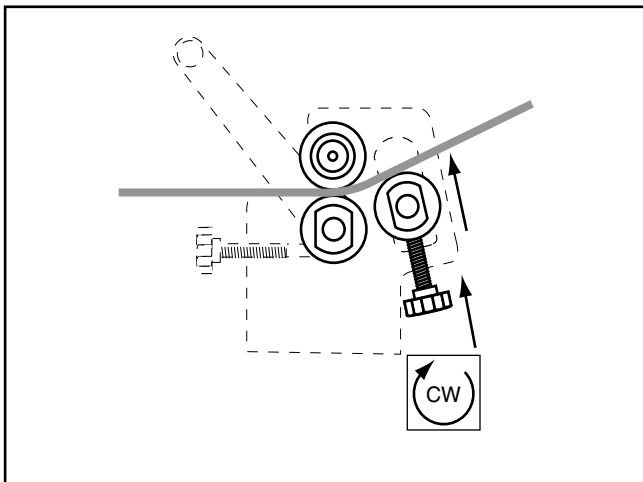

Figure 20. Setting the radius.
3. Turn the radius adjustment knobs to lift the rear roller until the desired radius bend is reached (see **Figure 20**). Make sure to turn the knobs equal amounts so the rear roller is always parallel with the other rollers. Failure to do so will create a larger radius on one end than the other, resulting in a cone shape.